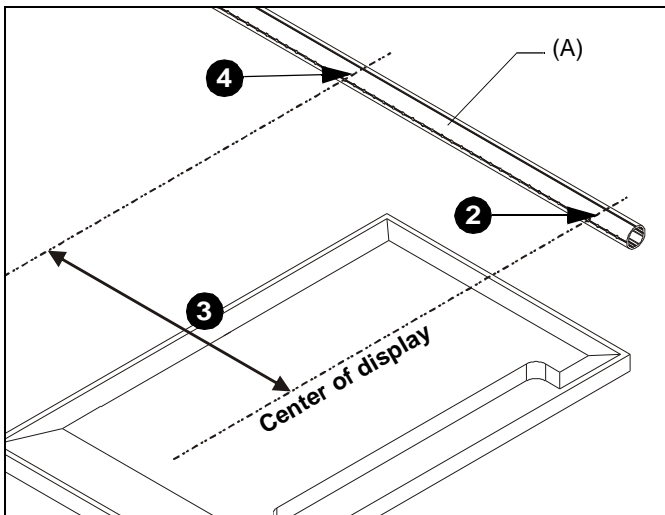

Figure 1
1. Lay CPA048P column (A) on floor and carefully place displays next to column. (See Figure 1)
2. Mark center of lower display onto column. (See Figure 1)
3. Measure one screen height up on the column from the first mark. Add approximately 2 inches extra length to allow for display tilt, and add additional length for any extra space desired between displays. (See Figure 1)
4. Mark center of upper display onto column. (See Figure 1)